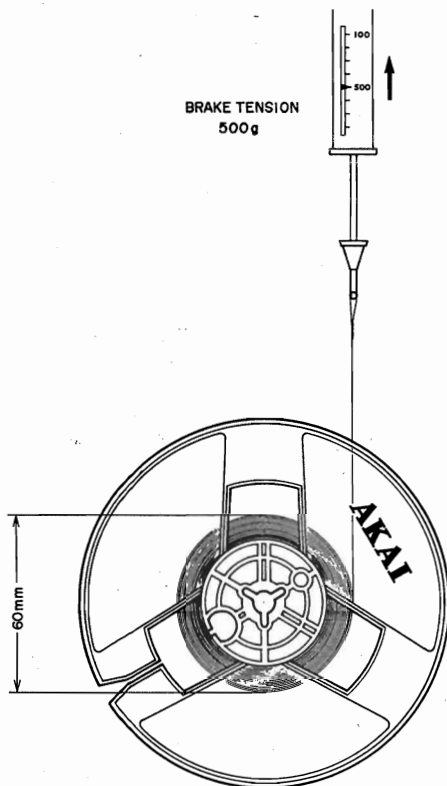

Fig. 11
- 1) As shown in Fig. 11, for brake tension adjustment, use a 60 mm diameter of tape wound on an empty 5" reel, and measure with a spring scale. Correct brake tension is 500 gr.